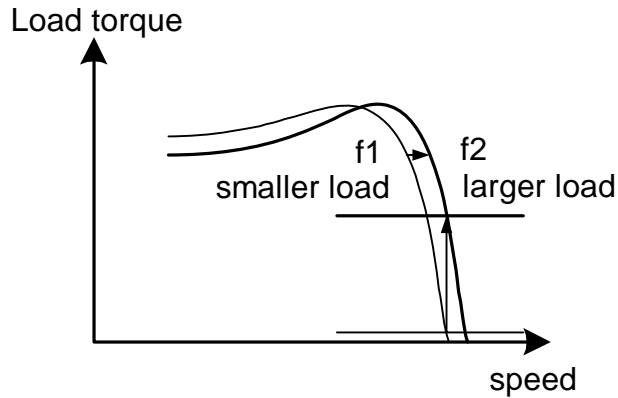

Fig. 16. Output frequency with slip compensation.
(3) Motor Rated Current (Cn-09)
(4) Motor No-Load Current (Cn-10)
- The slip compensation is enabled when the output current is greater than motor no-load current (Cn-10). The output frequency will shift from f1 to f2 (>f1) for the positive change of load torque. (See Fig. 16)
(5) Motor Rated Slip (Cn-11)
- This setting is used as a reference value for torque compensation function. See Fig. 16. The setting is 0.0~9.9% as a percentage of motor Max. voltage frequency (Cn-04) as 100%.